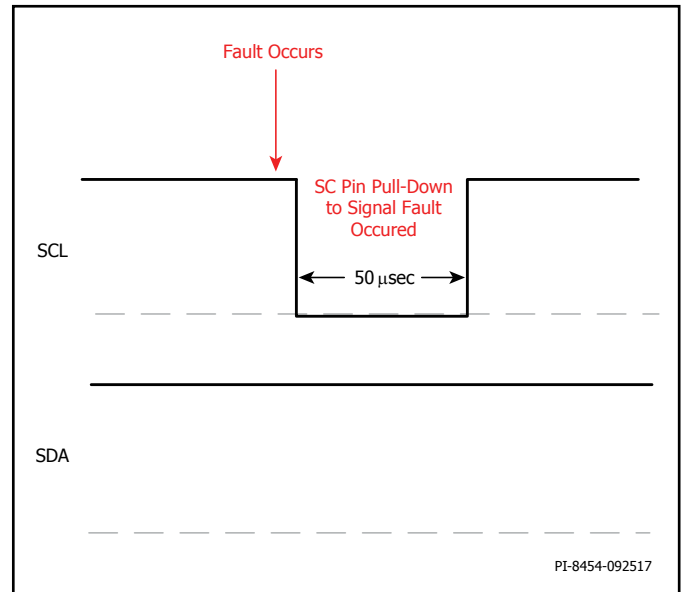

Figure 19. Interrupt Mask During Idle I2C.
1. When the SCL pin is in idle mode (see Figure 19), the fault interrupt will happen as soon as the fault is detected. The interrupt pulls down the SCL pin for 50  $\mu$ sec then releases it back to HI State.